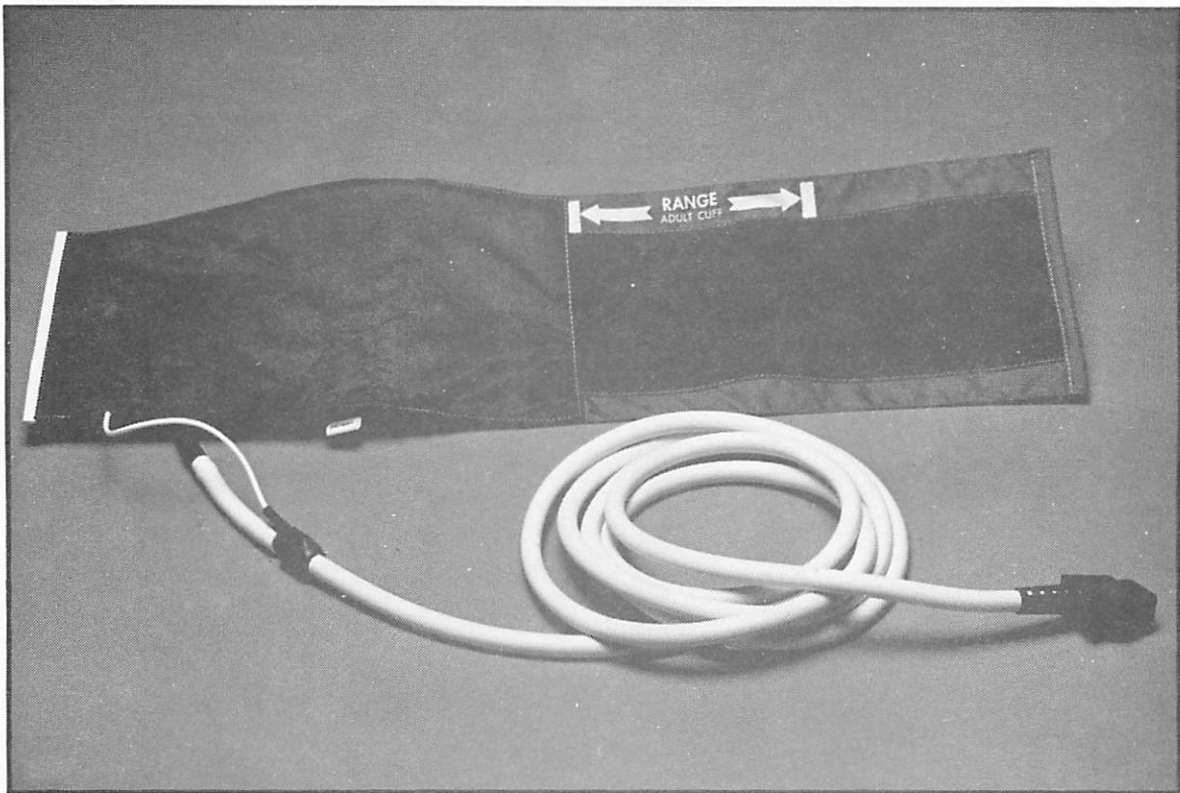

Figure 1-11. Umbilical Cables, Models 1131 and 1132
- p. Umbilical Cable, 6 ft. - Model 1131 (figure 1-11). The umbilical cable consists of a flexible air hose, a coaxial cable and microphone for connection between the cuff and the instrument. The air hose is used to deliver air to inflate the cuff; the coaxial cable and the microphone deliver korotkoff signals to the instrument.
- q. Umbilical Cable, 12 ft. - Model 1132 (figure 1-11). Same in form and function as the Model 1131 but is 12 feet long.